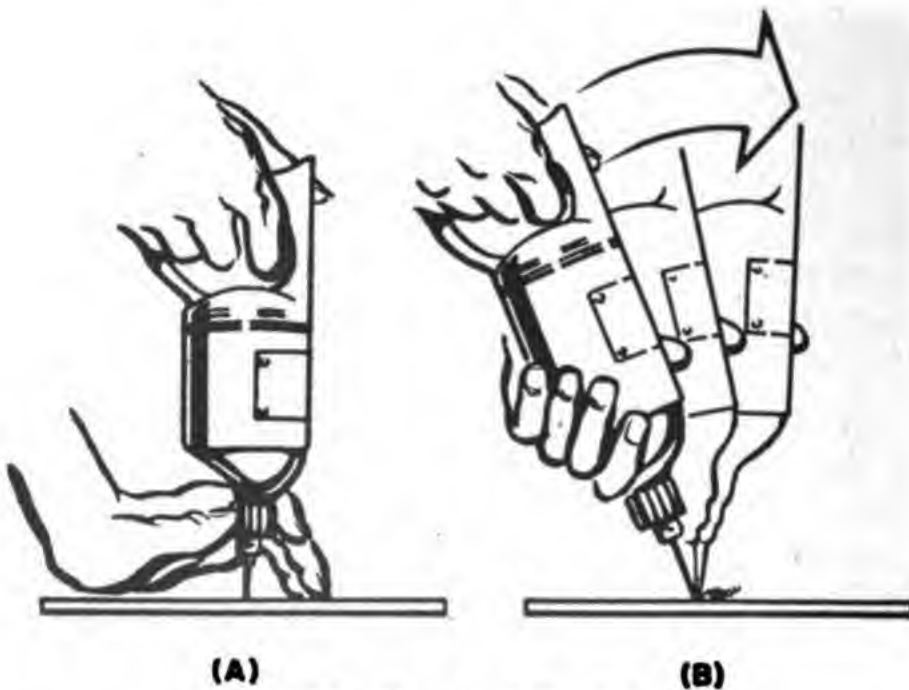

Figure 38.—How to drill a hole.
BE SURE TO HOLD THE DRILL PERPENDICULAR TO EITHER A FLAT OR ROUNDED SURFACE. Spot the drill DIRECTLY OVER the location of the hole as in figure 38 (A). Start the hole, then CHECK THE CENTERING by removing the drill as soon as it is well started.
If you find that the drill started off-center, you can correct the mistake, as in figure 38 (B) by tilt-